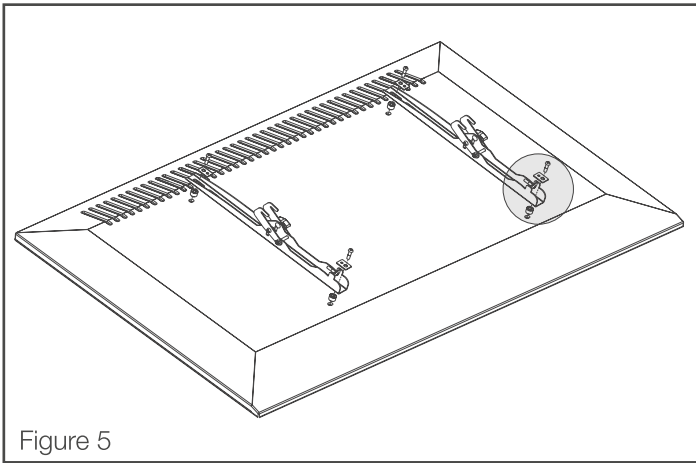
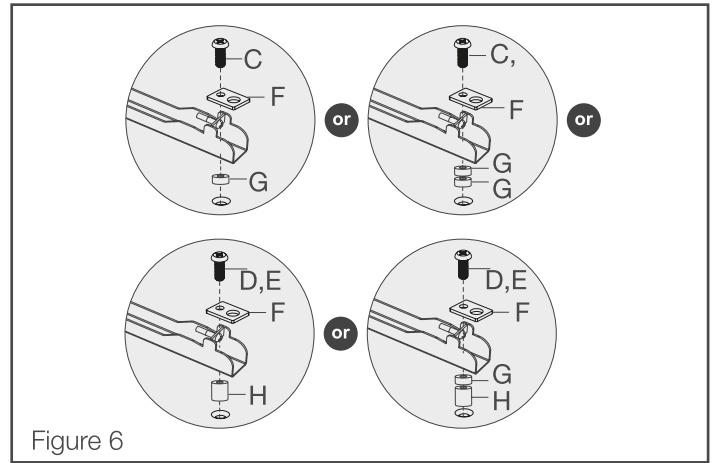

Figure 5
Figure 6
- Gently put your mounting arms (M and N) on the back of the TV so that the mounting pattern holes are showing through the mounting arm holes. If the back of your TV is curved or recessed (see Figure 5) you will also need to use a spacer (G or H) depending upon the amount of space you are trying to clear (see Figure 6). If using spacers you will need to use longer bolts. Remember that the bolt needs to turn at least 3 full turns.